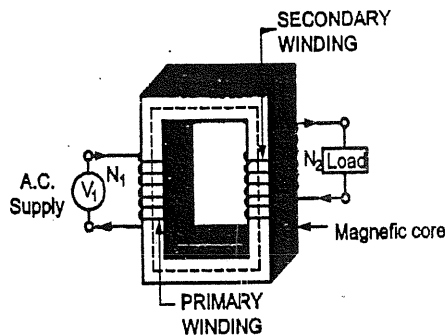

FIG. 3.6 : PRELIMINARY
- Primary and Secondary windings are represented by inductive coils having resistance and reactance, where as magnetic core is represent by two lines between the primary and secondary winding as shown in fig. 3.6.